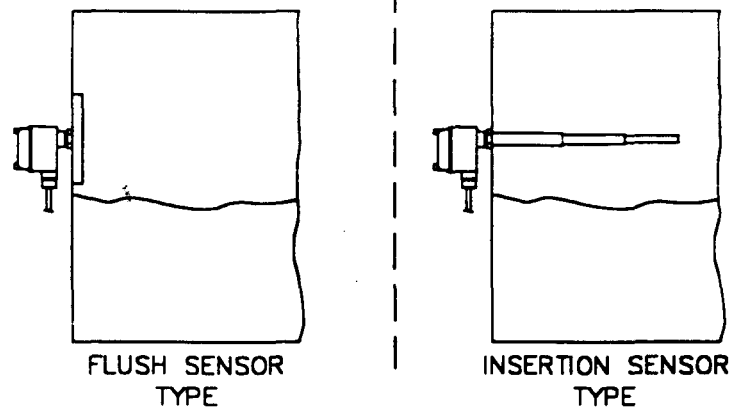

Figure 4-4
- A. Check that the level is well below the sensing element. See Figure 4-4.